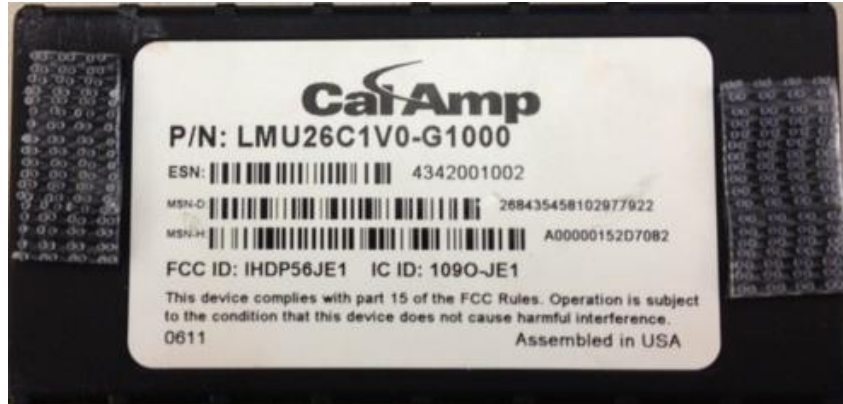

Figure 8: Re-closable Fastener Tape on LMU-26xx
- Firmly press on the sticky-side of the re-closable fastener tape onto the device on both sides of the device, front or back of device depending on installation requirements (Figure 8).